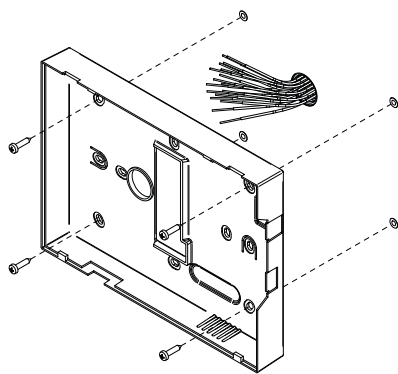

Fig. 10
3. As shown in figure **Fig. 10**, fix the back cover of the videophone to the wall keeping the same orientation shown in the figure and taking care to feed the connection cables through the specific circular opening;